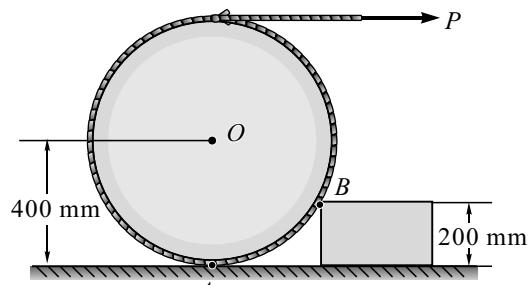

Fig. 3.E19
20. Determine the magnitude and direction of the smallest force P required to start to wheel over the block as shown in Fig. 3.E20.